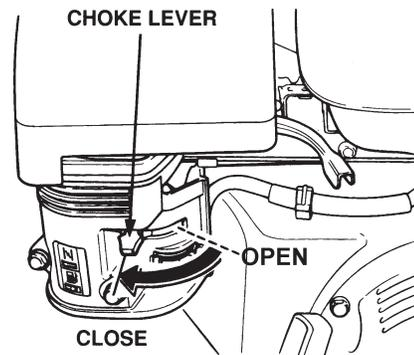

Figure 10. Engine Choke Lever
3. Place the **choke lever** (Figure 10) in the "**CLOSED**" position if starting a **cold** engine.